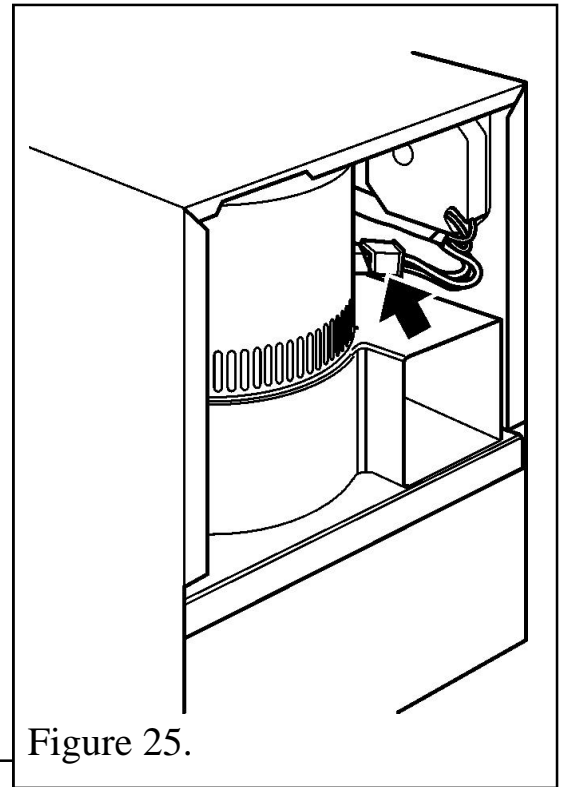

Figure 25.
4. Replace the fan unit taking care not to snag or otherwise damage the electrical fittings. Connect the cable loom to the fan unit (See figure 25)